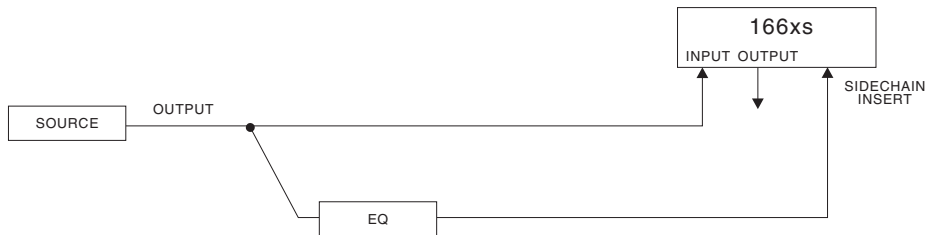

Figure 4: Frequency-Weighted Compression
For example, to set up your 166xs for frequency-sensitive gating or frequency-weighted compression, you must feed an equalizer's input with the same signal fed to the 166xs INPUT, and then connect the equalizer's output to the 166xs SIDECHAIN INSERT jack (Figure 4). Providing the signal to both the 166xs INPUT and the equalizer can be accomplished in several different ways: (1) use an insert cable plugged into the SIDECHAIN INSERT jack. The SEND goes to the input of the EQ. The RETURN goes to the output of the EQ; (2) use a Y-cable to feed the audio source to both the 166xs INPUT and the equalizer input; (3) feed the signal to one of the 166xs INPUT jacks and use the compressor channel's parallel INPUT jack to drive the equalizer (e.g., if the audio source feeds into Channel 1's 1/4" INPUT jack, use Channel 1's XLR INPUT jack to feed the signal to the equalizer); (4) if the audio source can internally split its output signal (e.g., some synthesizers can send the same signal from two outputs), plug a cable into each output and feed one cable to the 166xs INPUT and the other to the equalizer.